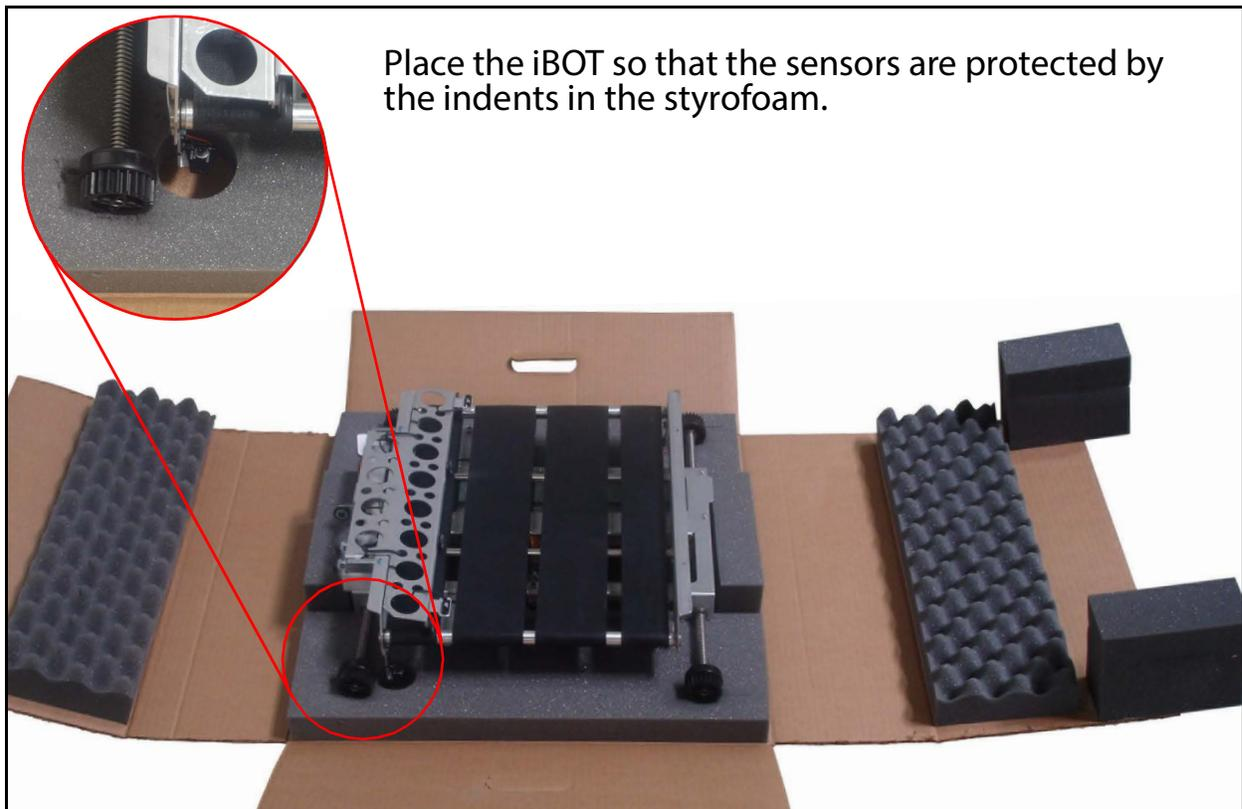

Figure 78: Place the iBOT into the container
2. Place the defective iBOT into position in the middle of the inner container as shown in Figure 78.